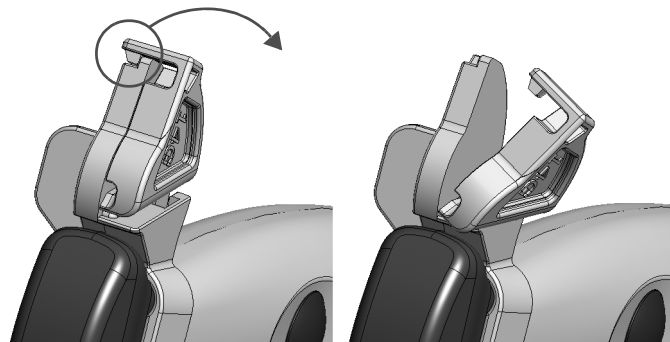

Figure 9. Push to release the needle guide on the Craniotomy Transducer Type 8862.
- 1 Hold the transducer with your left hand. With your right hand, carefully push the needle guide insert sideways until it opens up (see Figure 9).